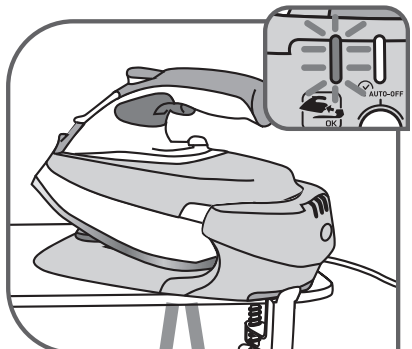
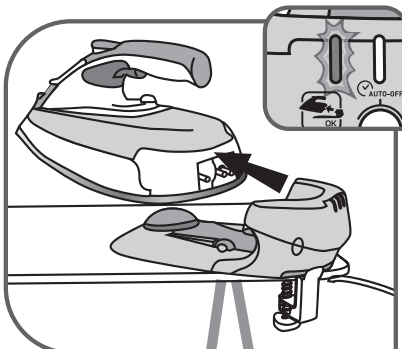

Fig.8
Fig.9
- The flashing green light – **fig.8** located on the display panel on the back of the base indicates that the iron is heating up. When the light stops flashing – **fig.9**, the iron is ready to use.